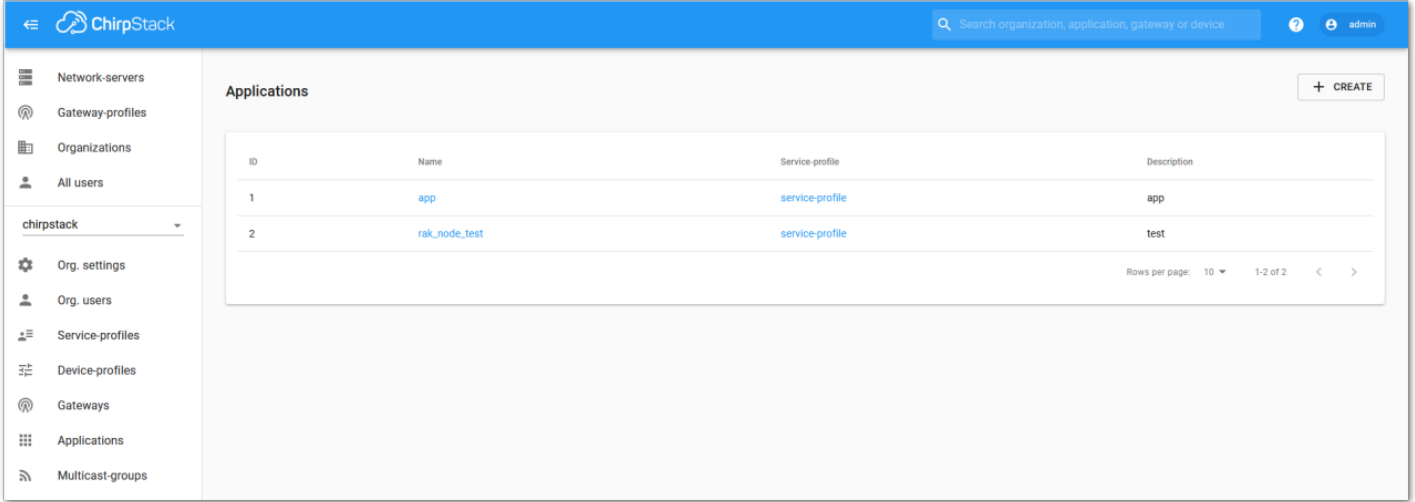
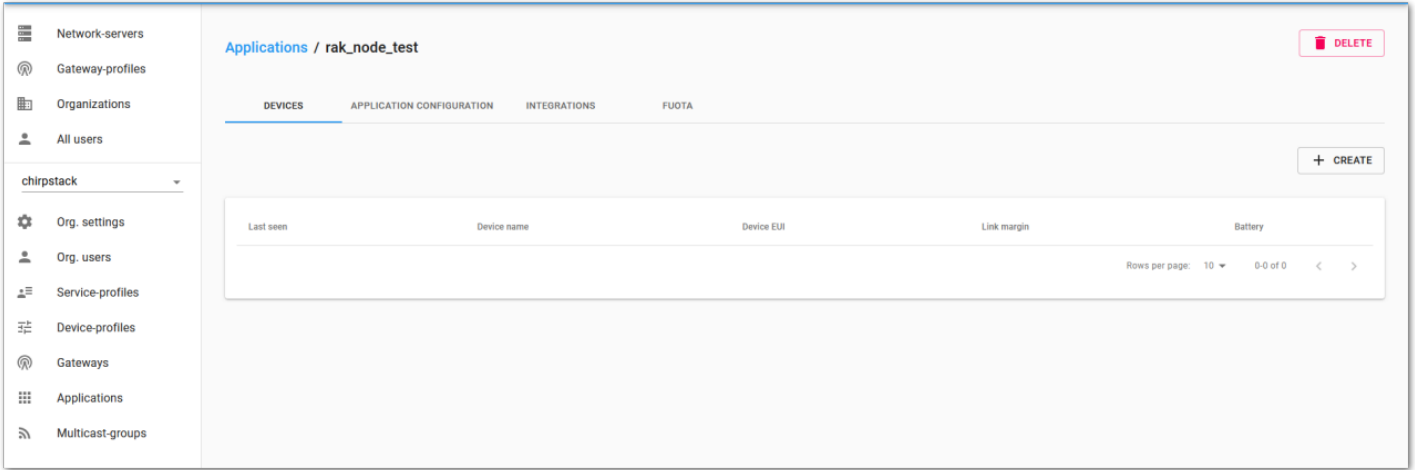

Figure 200: List of Applications Created
Figure 201: Device Tab of an Application
1. Choose the **Application** created in the previous step, then select the **DEVICES** tab, as shown in **Figure 200** and **Figure 201**.